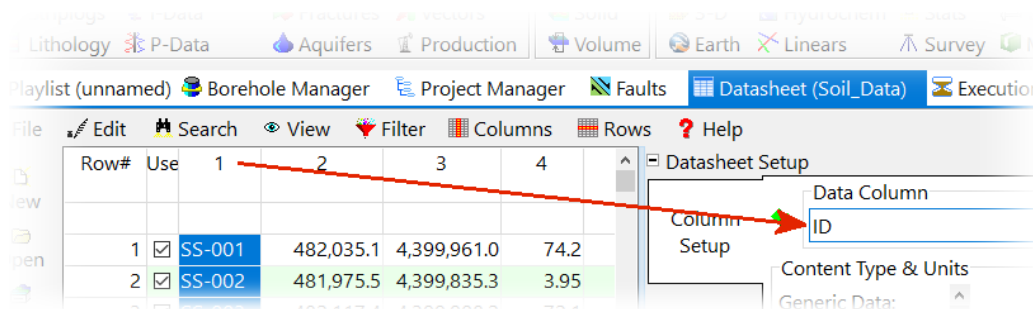

Figure 6
- Click on the top cell for the first column and type in the title (e.g., "ID") within the Datasheet Setup menu located along the right side of the screen (Figure 6).